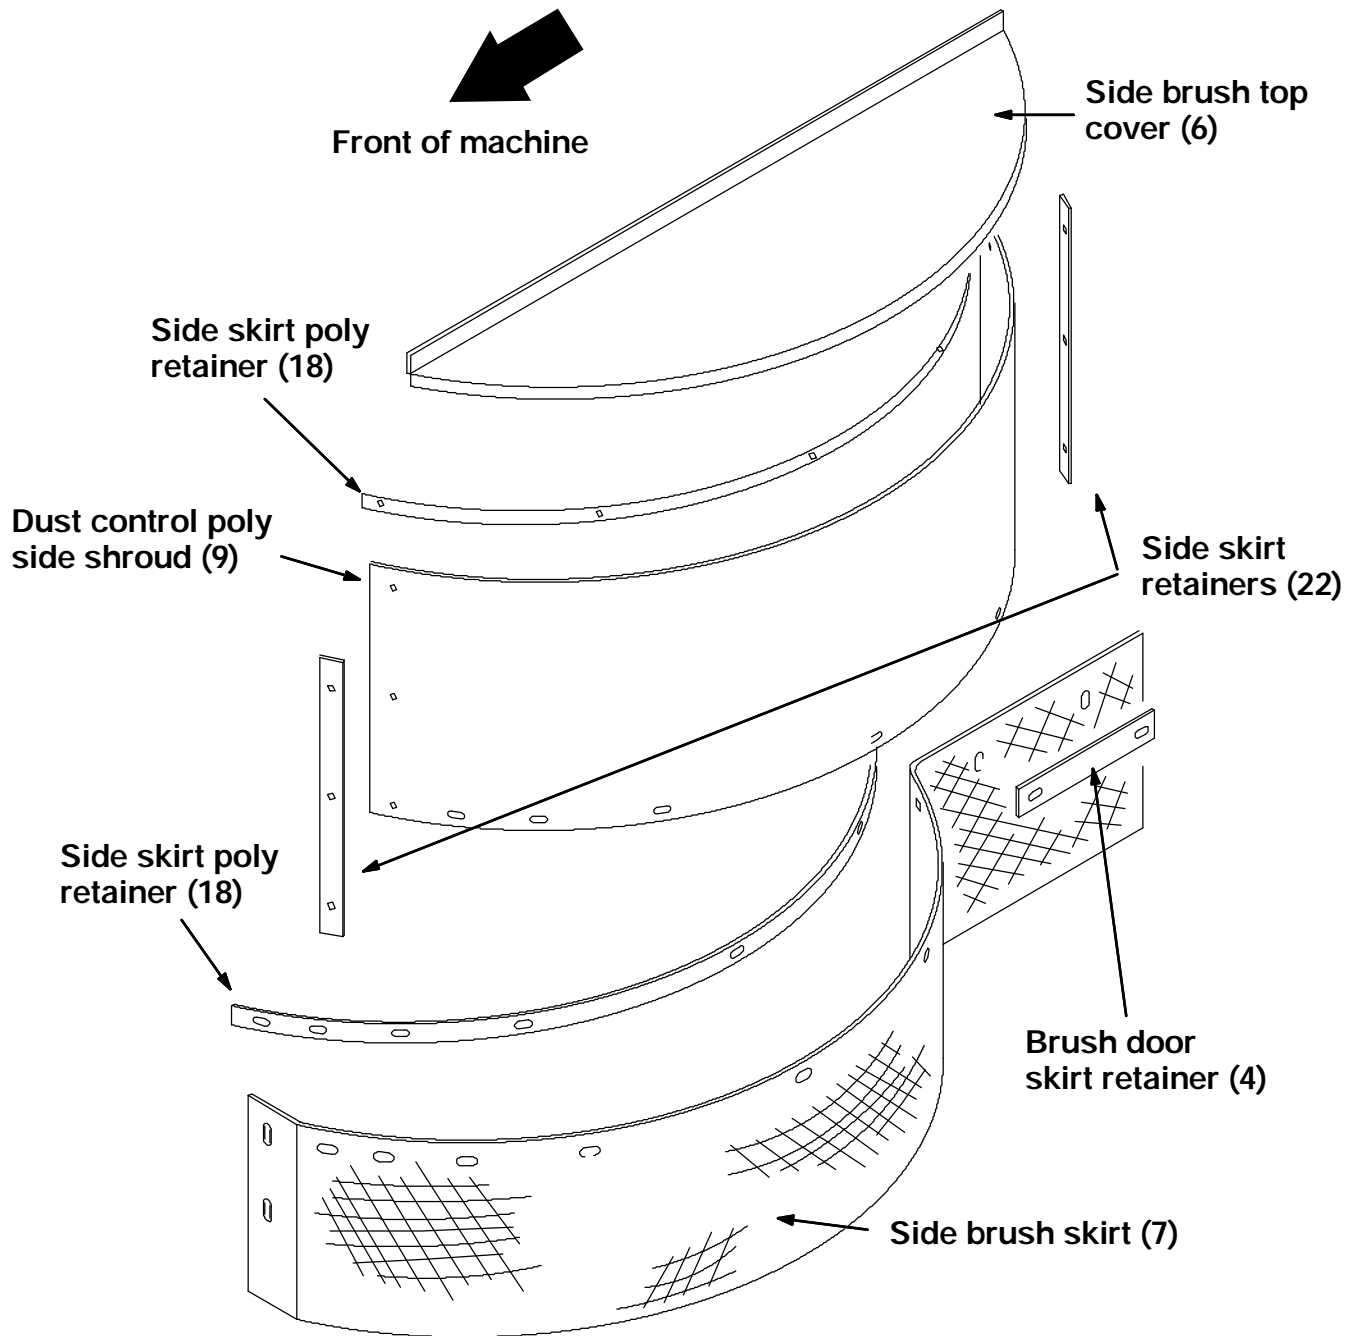

FIG. 6 - Assemble Side Brush Skirts
8. Install both dust control poly side shrouds (9) and side brush skirts (7) using the four side skirt retainers (22) and two side skirt poly retainers (18). (Refer to Fig. 6)
9. Use the two brush door skirt retainers (4) to attach the back end of the side brush skirt (7) to the machine's brush door. There should be mount holes in the front lower side of the door. (Refer to Fig. 6)
10. Slip one of the retainer strips (18) in the pocket on each of the new covers (6). (Refer to Fig. 6)
11. Attach the side brush top cover (6) and skirt retainer (18) to the top of the poly side shroud (9). (Refer to Fig. 6)
(Refer to Figures 6, 7, and 8)
(Refer to Figures 6 and 7)
8. Install one dust control poly side shroud (9) and side brush skirt (7) using two side skirt retainers (22) and one side skirt poly retainer (18). Leave the hardware loose for now. (Refer to Fig. 6)
9. Use one brush door skirt retainer (4) to attach the back end of the side skirt (7) to the machines RH brush door. There should be mounting holes in the front lower side of the door. (Refer to Fig. 6)
(Refer to Figures 6 and 8)
14. Assemble the side brush skirt (7) to the dust control poly side shroud (9) using six hex screws, fender washers, and nyloc nuts. **Do not** use the side skirt poly retainer (18). (Refer to Fig. 6)
16. Use one brush door skirt retainer (4) to attach the back end of the side skirt (7) to the machines LH brush door. There should be mounting holes in the front lower side of the door. (Refer to Fig. 6)
19. The side brush top cover is not used on the left side when the machine is equipped with only one side brush. Save the cover for the right side if needed. (Refer to Fig. 6)